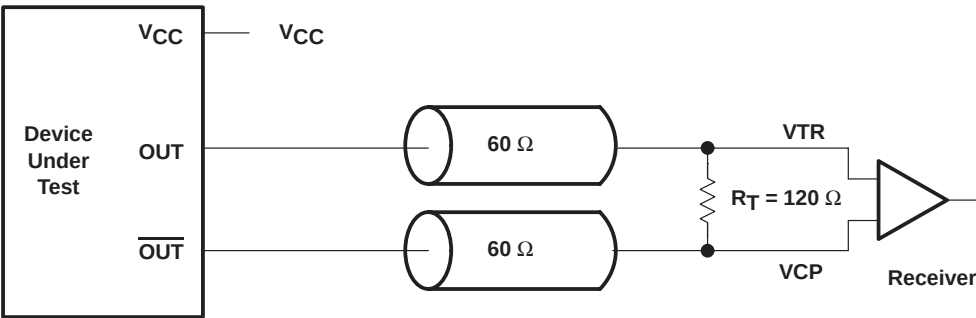

Figure 3. Differential Signal Using Direct Termination Resistor
6. Differential input signal voltage specifies the differential voltage  $|V_{TR} - V_{CP}|$  required for switching, where  $V_{TR}$  is the true input level and  $V_{CP}$  is the complementary input level (see figure 3).
| V O    | Output voltage swing                                |                | For load condition see Figure 3                                                                                        |                                         | 1.1                      |                    | V CC –0.4     | V    |
| I CC   | Supply current on V CC(see Figure 7) |                | V CC = 2.7 V, f O = 167 MHz,All outputs switching 16 pF in 60 Ωenvironment, See Figure 3 |                                         |                          | 235                | 300                      | mA   |
‡ The value of VOC is expected to be |VTR + VCP|/2. In case of each clock directly terminated by a 120-Ω resistor, where VTR is the true input signal voltage and VCP is the complementary input signal voltage (see Figure 3).
Figure 3 shows the differential clocks are directly terminated by a 120-Ω resistor.